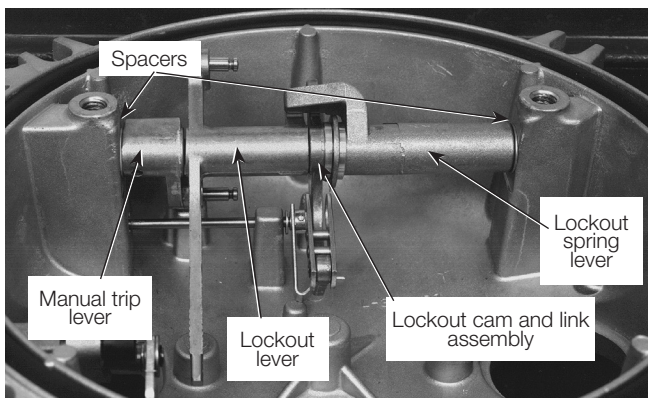

Figure 19. Reassembling head mechanism
3. Place lockout spring lever, spring guide and spacers, lockout cam and link assembly, and lockout spring lever onto their shaft. Note that the hollow shaft end must point toward the sleet hood. Position this assembly. Be sure to include flat washers at end of shaft, see Figure 19.